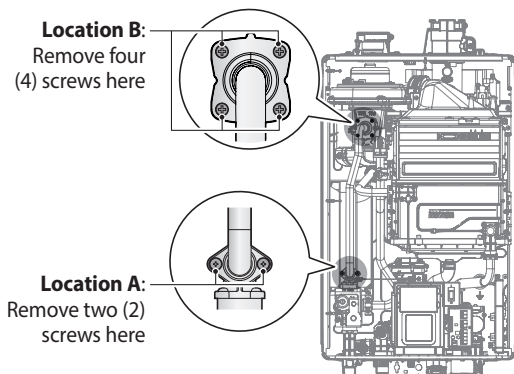

Figure 3. Detaching Gas Valve from
4. Use a Phillips screwdriver to remove the two screws at Location A - the connection below the Gas Valve where it connects to the pipe. See Figure 3 for reference. Once the screws are removed, carefully separate the pipe from the Gas Valve.